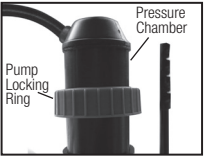

Figure 2
3) Loosen pump locking ring and remove entire pump assembly from tank (Figure 2).